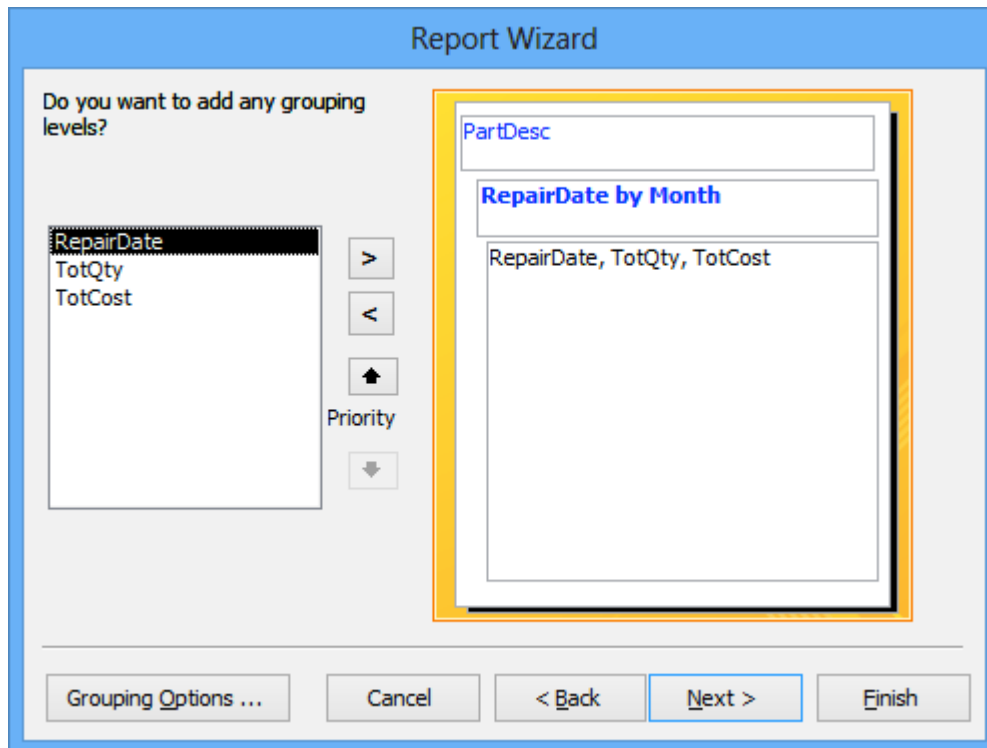

Figure 10: Report Wizard Grouping Window
3. Add Grouping Levels: Select and add *PartDesc* and then *RepairDate* using the > button. Note that *RepairDate* defaults to *RepairDate by Month* as shown in Figure 10. Click the **Next >** button to continue.